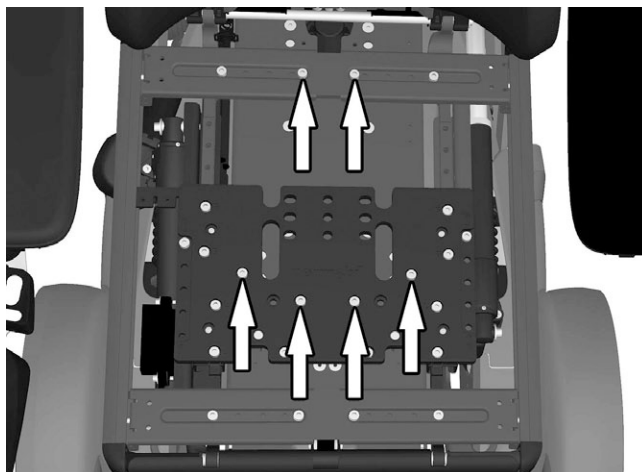

Figure 179. The seat is mounted with six screws.
8. Remove the six screws holding the seat. See fig. 179. Make note of in what hole pattern the seat is mounted with consideration to subsequent mounting.